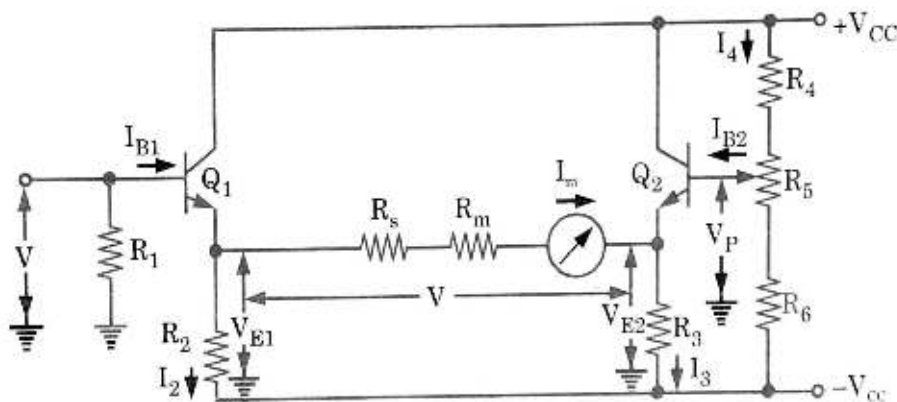

Fig. 2.1.2. Practical emitter-follower voltmeter circuit.
8. This error can be eliminated by using a potential divider and an additional emitter-follower as shown in Fig. 2.1.2.